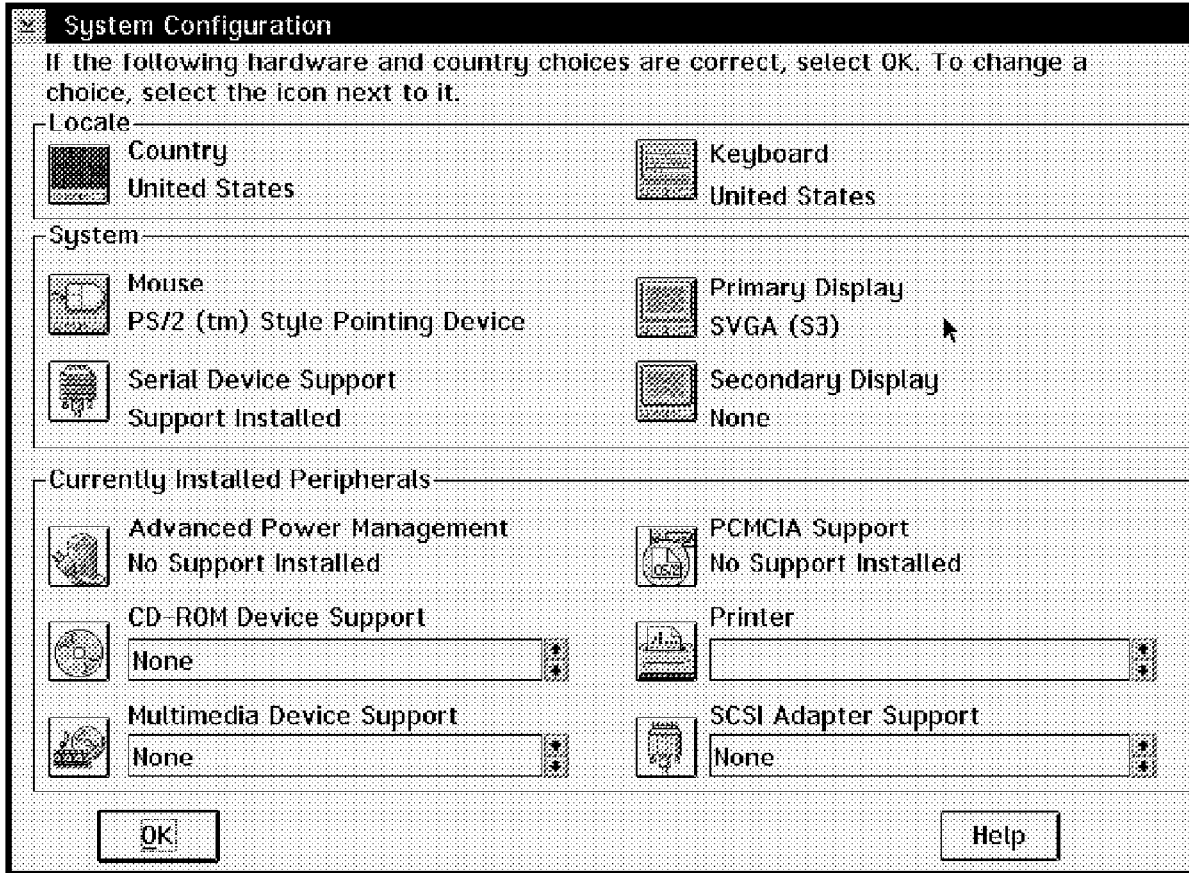

Figure 7. Selective Install
4. Select **Primary Display** or **Secondary Display** as shown in Figure 7 on page 33. By default, the installation program will have selected a driver for you based on your adapter chipset.